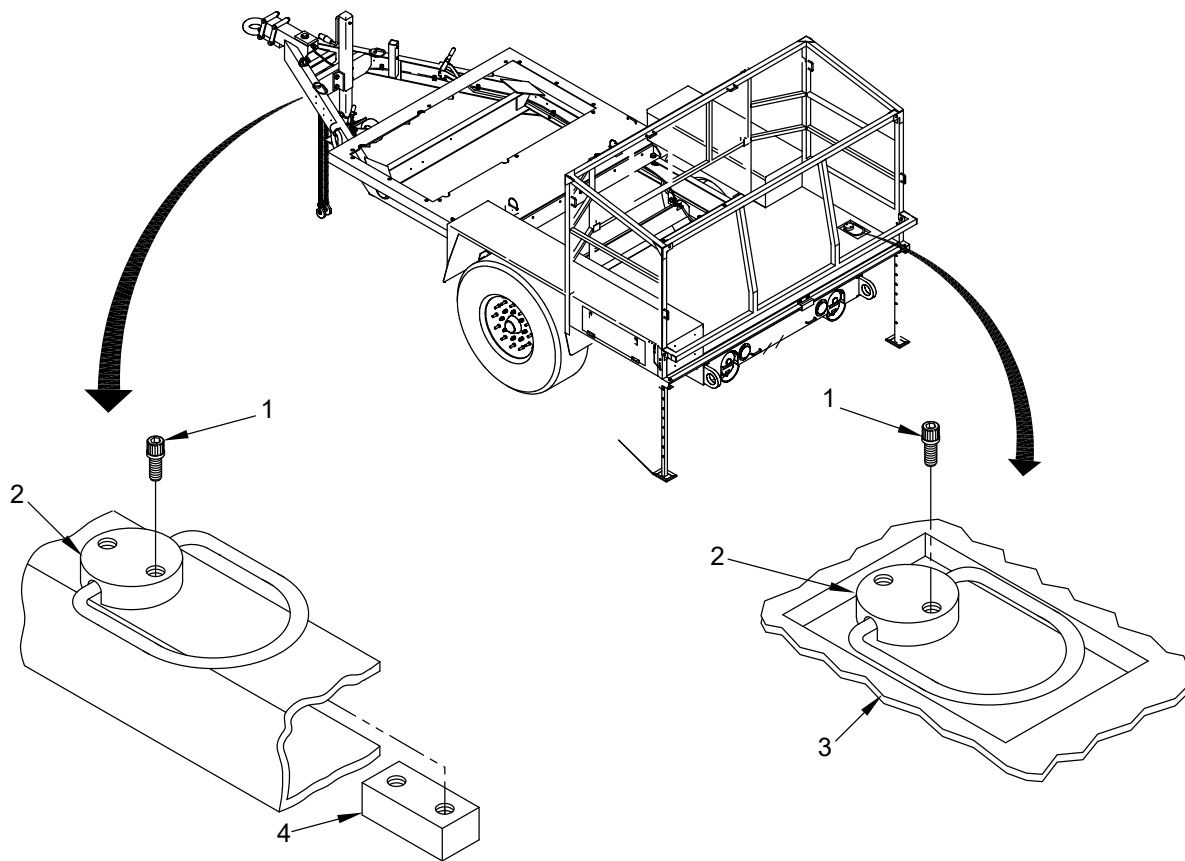

Figure 1. Lift Sling Removal/Replacement.
3. Remove two hex bolts (Figure 1, Item 1) from lift sling (Figure 1, Item 2).
Front lift slings have a detachable mounting block (Figure 1, Item 4) within the trailer frame. Secure mounting block (Figure 1, Item 4) when removing hardware and set aside.
Rear lift slings have a permanent mounting block attached beneath trailer bed (Figure 1, Item 3).
4. Pull lift sling (Figure 1, Item 2) up from trailer superstructure.
1. Position lift sling (Figure 1, Item 2) over bolt holes in trailer superstructure.
2. Install two hex bolts (Figure 1, Item 1) into lift sling (Figure 1, Item 2) and through trailer superstructure.
Front lift slings have a detachable mounting block (Figure 1, Item 4). Align mounting block with hardware within frame.
3. Tighten bolts (Figure 1, Item 1).